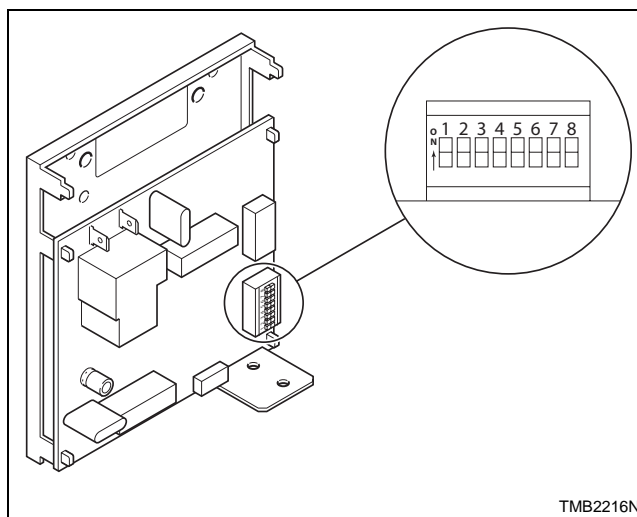

Figure 7
2. Write down machine control dip switch settings, then set them all to the off position. Refer to Figure 7.